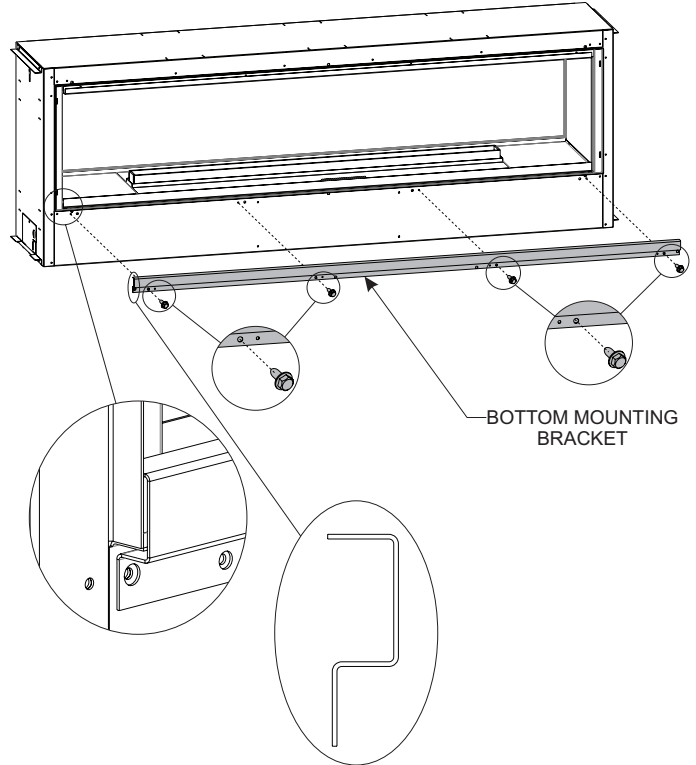

Figure 3
4. Locate bottom mount bracket shown in **Figure 3** and attach with four provided #10 x 1/2 inch screws as shown.